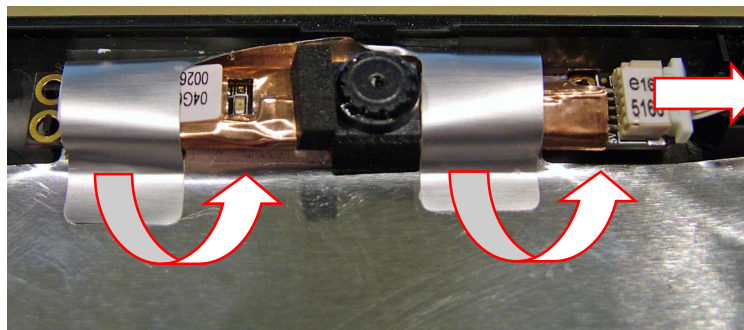

Fig. 47 Location of webcam connector.
2. Carefully remove any adhesive tape securing the module (see Fig. 47 on page 28).